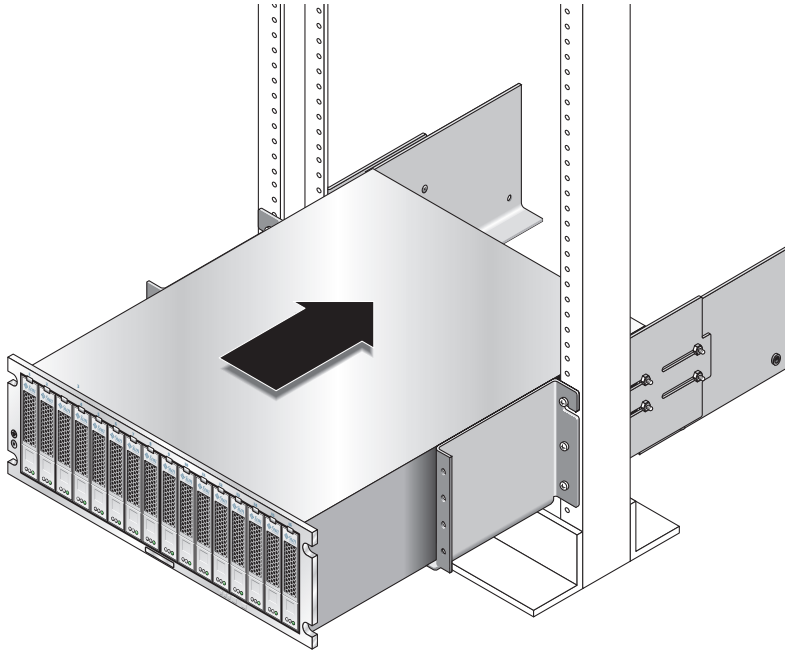

FIGURE C-6 Sliding the Tray Into the Rack
3. Carefully slide the tray onto the mounting rails until the front bezel of the tray contacts the rail flange on each side (FIGURE C-6).